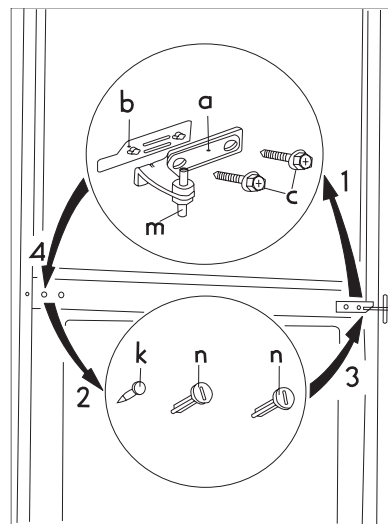

fig. 2.
3. Open the doors and dismount the double door hinge (a,b) by removing the screws (2 pieces) (c). (fig. 2)
4. Take off the double door hinge (a,b,c) by gradually removing it from the cabinet, slightly tilting both doors. Do not forget to remove the plastic spacer (b) under the hinge. (fig. 2)
11. Remove the covering nails (3 pieces) (n,k) of the double door holder on the left side and put them to the other side. (fig. 2)
16. Fit the pin of the double door hinge (m) into the left drill of the freezer door. (fig. 2)